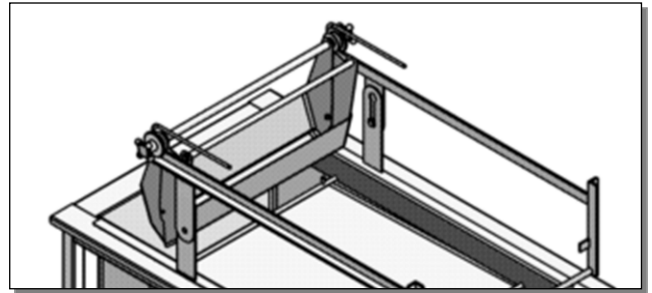

Figure 3, Upper Frame Assembly
8. ASSEMBLE the **Glaze Applicator** onto the top of the **Upper Frame**, aligning the rollers with the tracks (See Figure 3.)